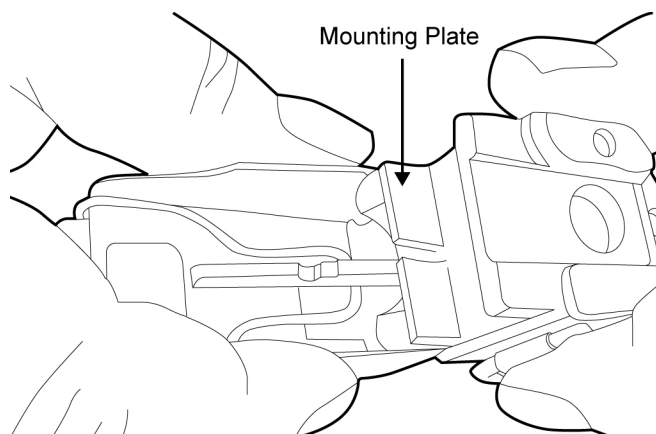

Figure 38. Removing the Mounting Plate.
- b. Pull the mounting plate down and off of the side folding buttstock. Refer to Figure 38.